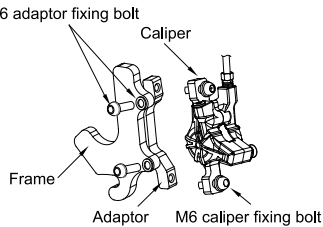

FIG.2
- Place a qualified adaptor on the front fork or frame by M6 adaptor fixing bolts + washer at a torque of 8~10 Nm(71~89 in. lbs) to install the Bengal Hydraulic Disc Brake. (As shown in FIG.2).
- Install the calipers on the adaptor by M6 caliper fixing bolts loosely and let calipers be able to swivel left and right for adjusting its position. (As shown in FIG.2)